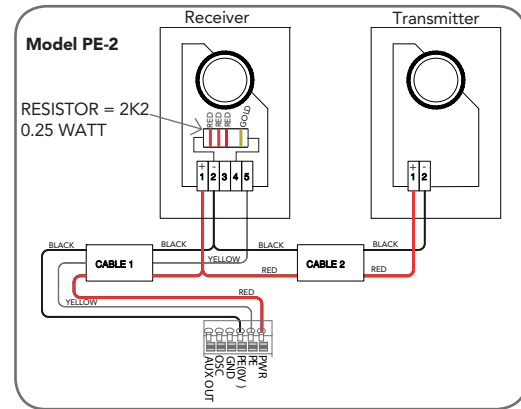

fig 46
- Connect the wires from the P.E.Beams wiring harness to terminal block (**Fig. 46**). The wiring diagram is for Model PE-2 (Order Code 90214).
**WARNING:** Install the P.E.Beams as per diagram in (**Fig. 46**). **Tampering with** P.E.Beams could result in serious personal injury and/or property damage and will void the warranty.